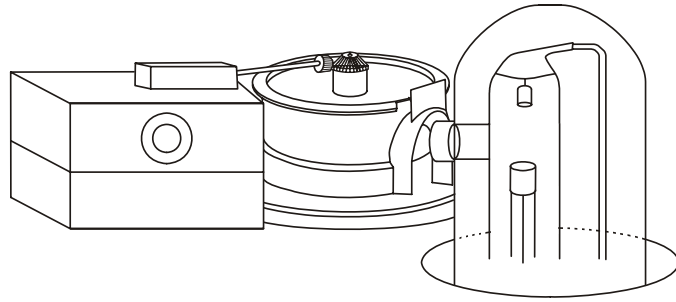

Fig. 8 Debye-Scherrer camera with motor drive
- If required, also set up the motor drive (U19202) as in Fig. 8. Plug its connectors into the 4-mm socket. Make sure the bevel gear is able to turn freely. Using the supplied Allen key, the inclination of the motor's bevel gear can be adjusted.